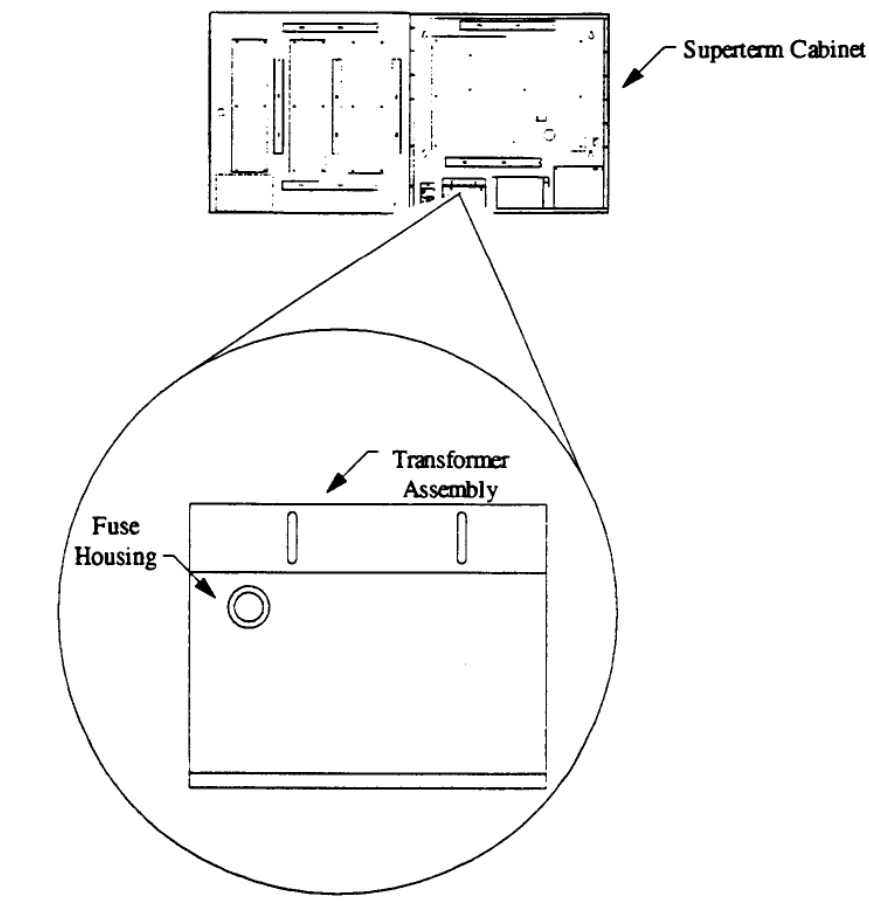

Figure 59 - Service Entrance Fuse Replacement
- 1) Open the Superterm cabinet and locate the transformer assembly secured to the lower left-hand ledge of the Superterm cabinet (see Figure 59).